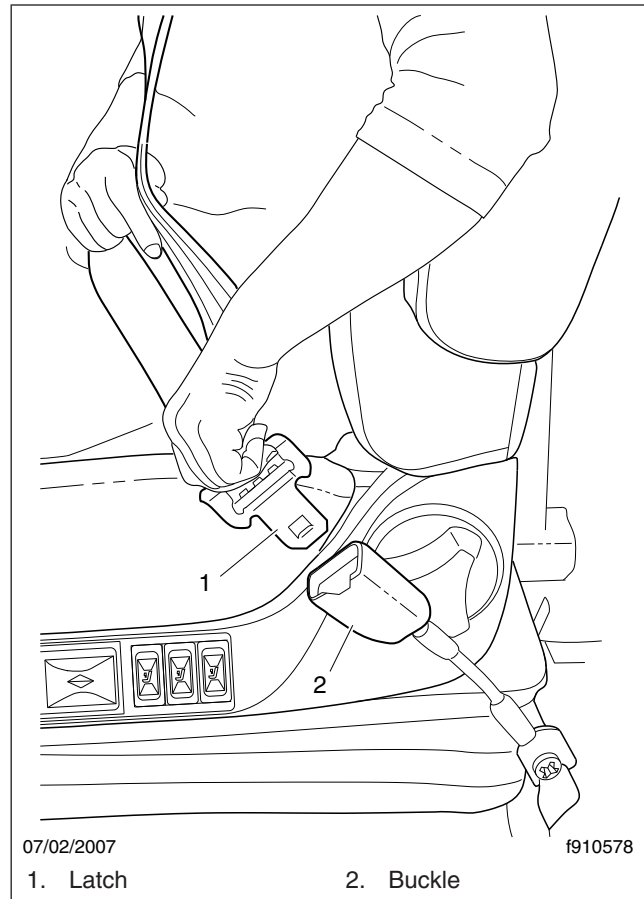

Fig. 6.10, Three-Point Seat Belt Operation
1. Slowly pull the latch end of the three-point seat belt out of the retractor and pull it across your lap (from outboard to inboard) far enough to engage the buckle. If the retractor locks too soon, allow the belt to retract slightly, then slowly pull it out again. See Fig. 6.10.
1. Slowly pull the link end of the three-point seat belt out of the retractor and pull it across your lap (from outboard to inboard) far enough to engage the buckle. If the retractor locks too soon, allow the belt to retract slightly, then slowly pull it out again. See Fig. 6.10.